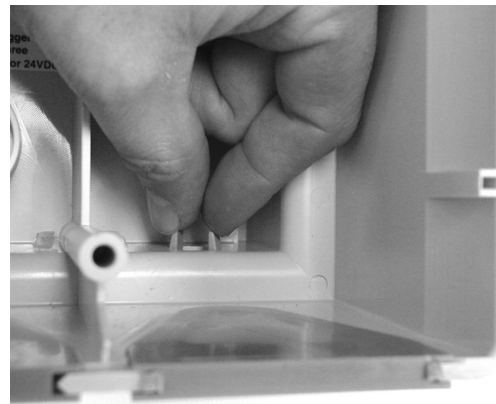

Figure 2
- 3.0 Remove the snap-in plug that seals the hexagonal opening on the far right as shown in Figure 2. This is where the pressure switch installs.